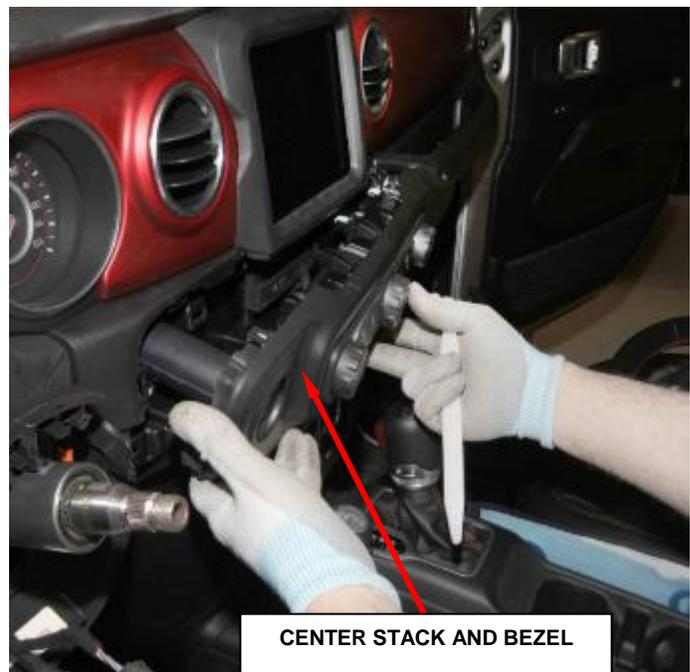

Figure 26 – Center Stack
12. Remove the inner steering column shroud and gap hider assembly (Figure 26).